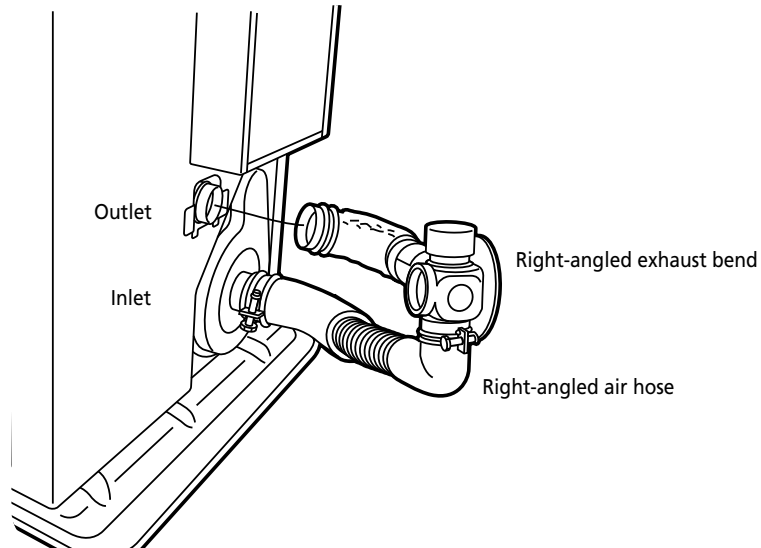

Fig. 11
5. Move the heater into position. Attach the right-angled exhaust pipe bend to the outlet of the exhaust pipe and attach the right-angled exhaust pipe bend to the inlet. Make sure all connections are tight (See Fig. 11).